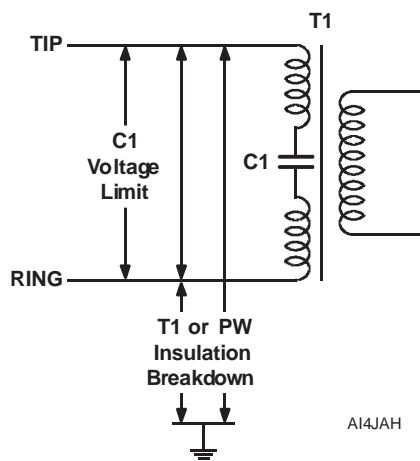
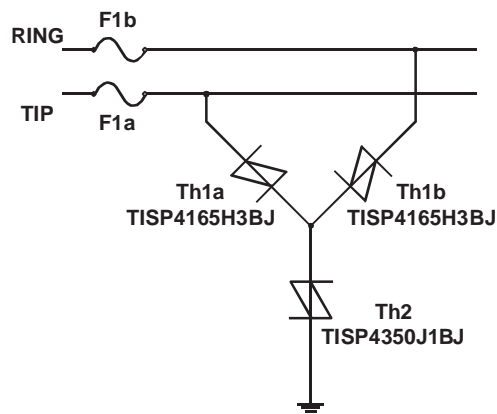

Figure 16. ADSL Modem Interface Voltage Limitations
Figure 17. Asymmetrical Design for US ADSL Modems
These designs are for special needs, where the RING to TIP protection voltage must be different to the RING to GROUND and TIP to GROUND voltages. ADSL modem interfaces often have a need for asymmetric voltage limiting, see Figure 16. Here, the RING to TIP voltage limitation is given by the d.c. blocking capacitor, C1, and the RING to GROUND and TIP to GROUND limitation is insulation breakdown. Often the breakdown limit is set by the spacing of the PW (Printed Wiring) tracks. Figure 17 shows a solution. Using two ±165 V V_(BO) parts for Th1a and Th1b, the RING to TIP voltage is limited to ±330 V. Using a higher voltage ±350 V V_(BO) part for Th2 limits the insulation stress to ±515 V. Figure 17 and its following table is for a GR-1089-CORE compliant design.